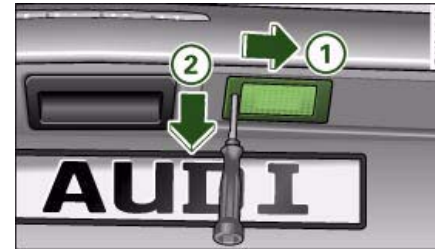

Fig. 310 Boot lid: Removing number plate light
- Insert the flat-blade side of the reversible screwdriver into the slot on the number plate light ⇒ fig. 310.